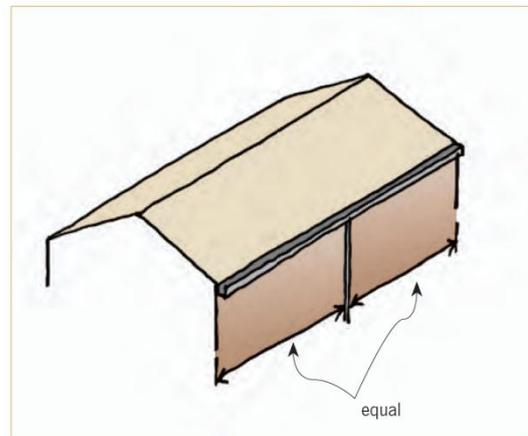

Figure 3. Centrally positioned outlet.
**However...** the position of outlets affects the minimum gutter capacity. For example, a centrally located outlet halves the serviced roof area (example shown in Figure 3 from BRANZ Bulletin 509)